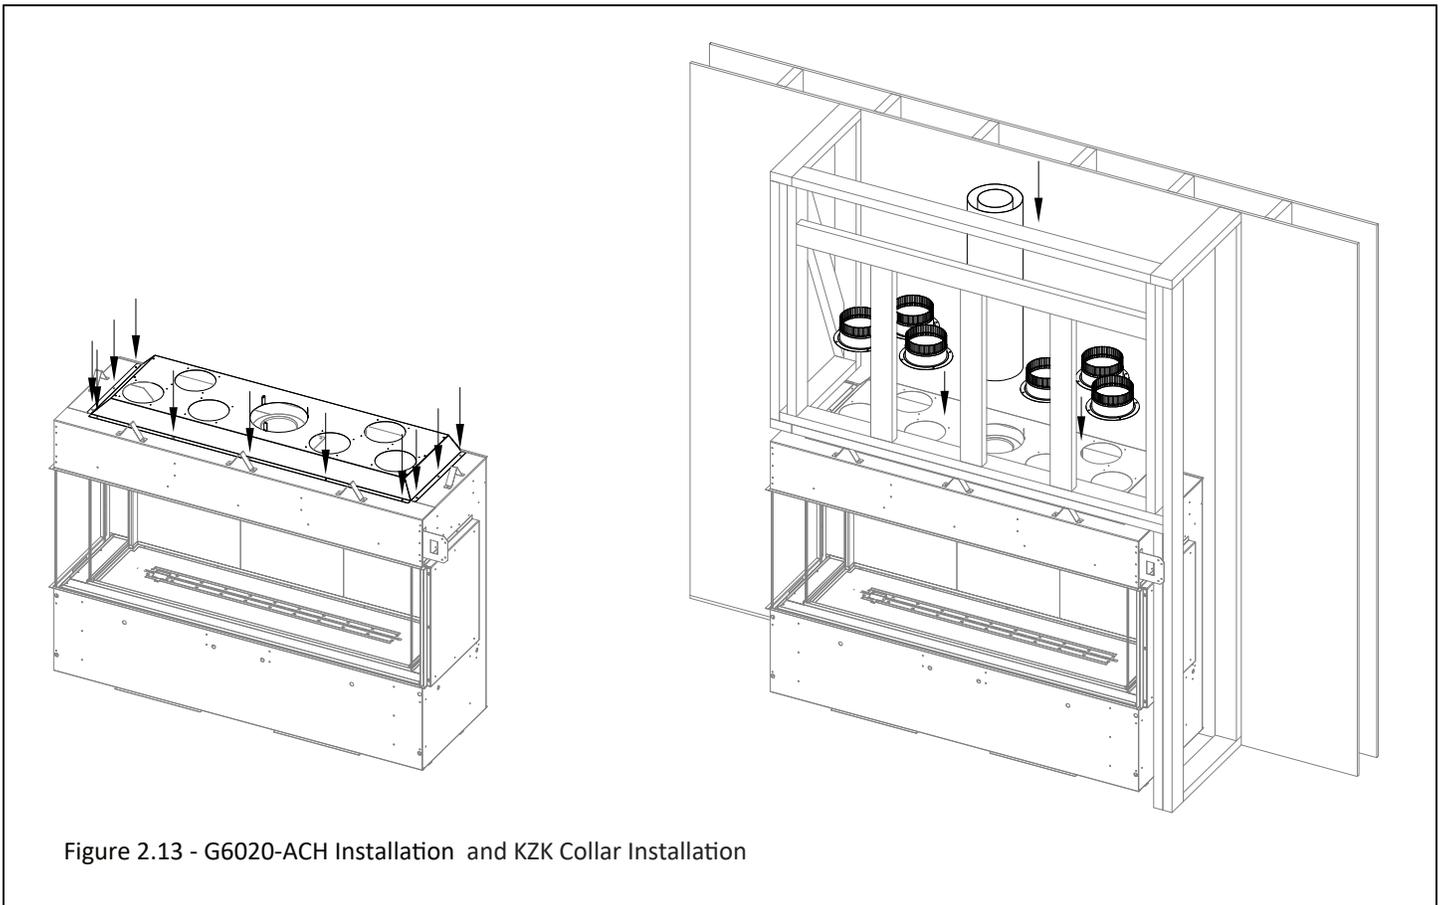

Figure 2.13 - G6020-ACH Installation and KZK Collar Installation
Important: You must order a (1) G6020-ACH with your KZK-056 and KZK-610. The G6020-ACH attaches to the fireplace. See Figure 2.13.
Note: Figure 2.13 shows a single sided installation. Your framing may look different depending on the installation option you have chosen.